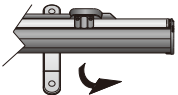

Figure 16
2. Rotate the feet in line with the casing. Retraction is completed (Figure 16 - 18).